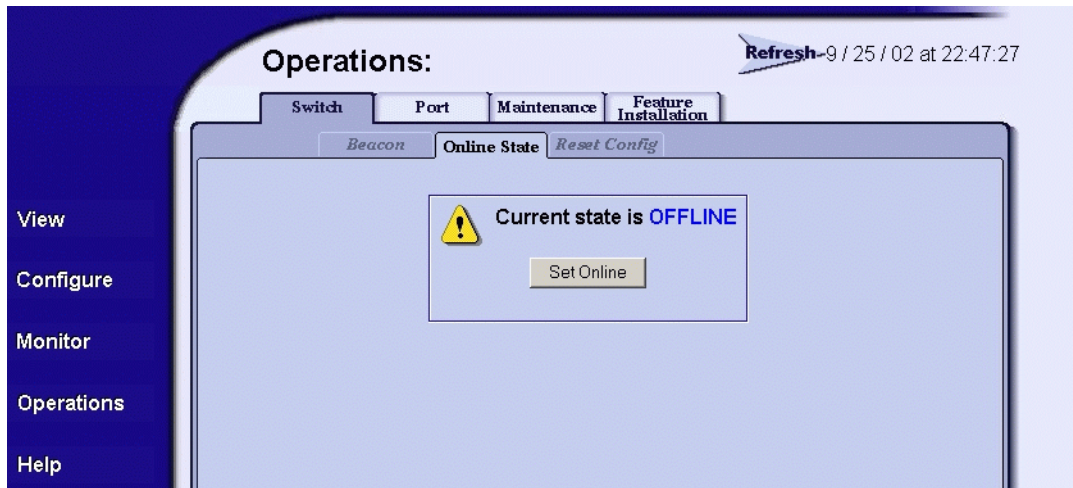

Figure 4-25 Operations Panel (Switch Page with Online State Tab)
2. Click the *Online State* tab. The *Switch* page displays with the *Online State* tab selected (Figure 4-25).